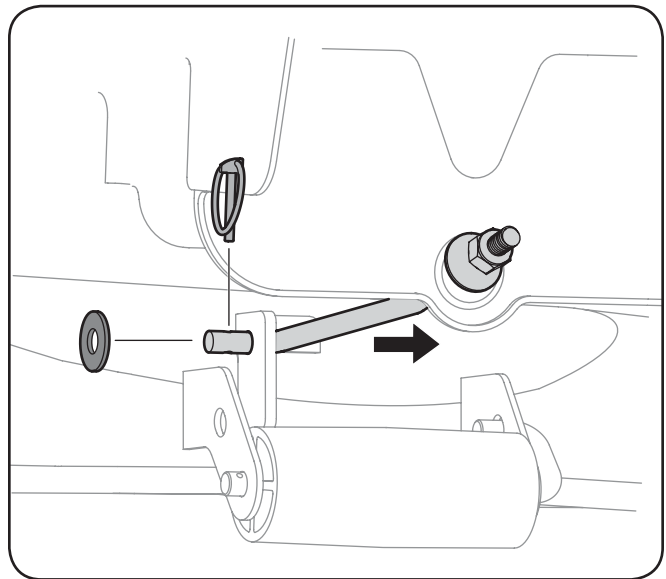

Figure 7-5
10. Remove the cotter pin from the end of the stabilizer rod and slide the stabilizer out of the hanger bracket on the deck. See Fig. 7-5.